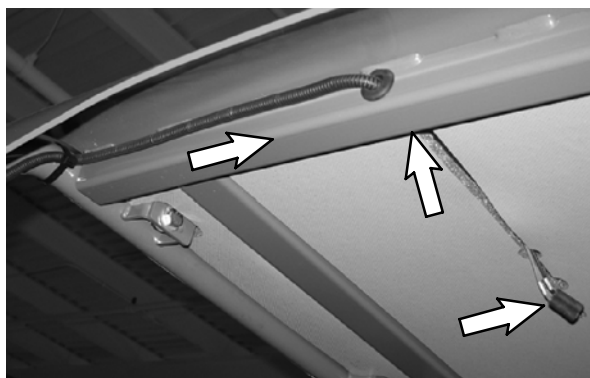
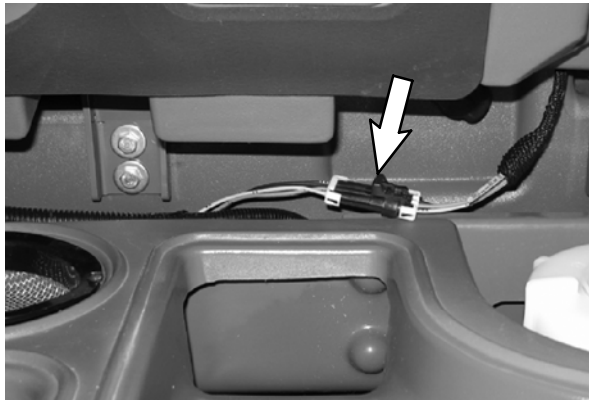
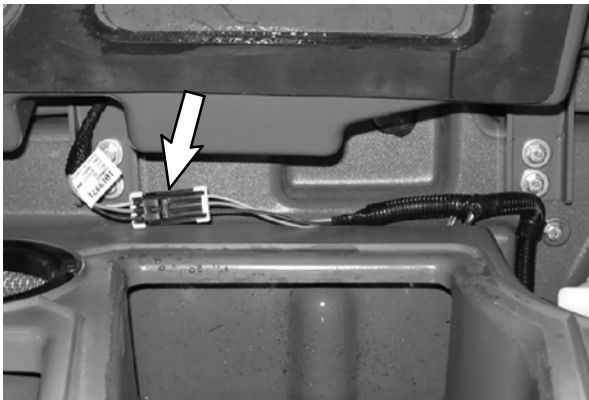
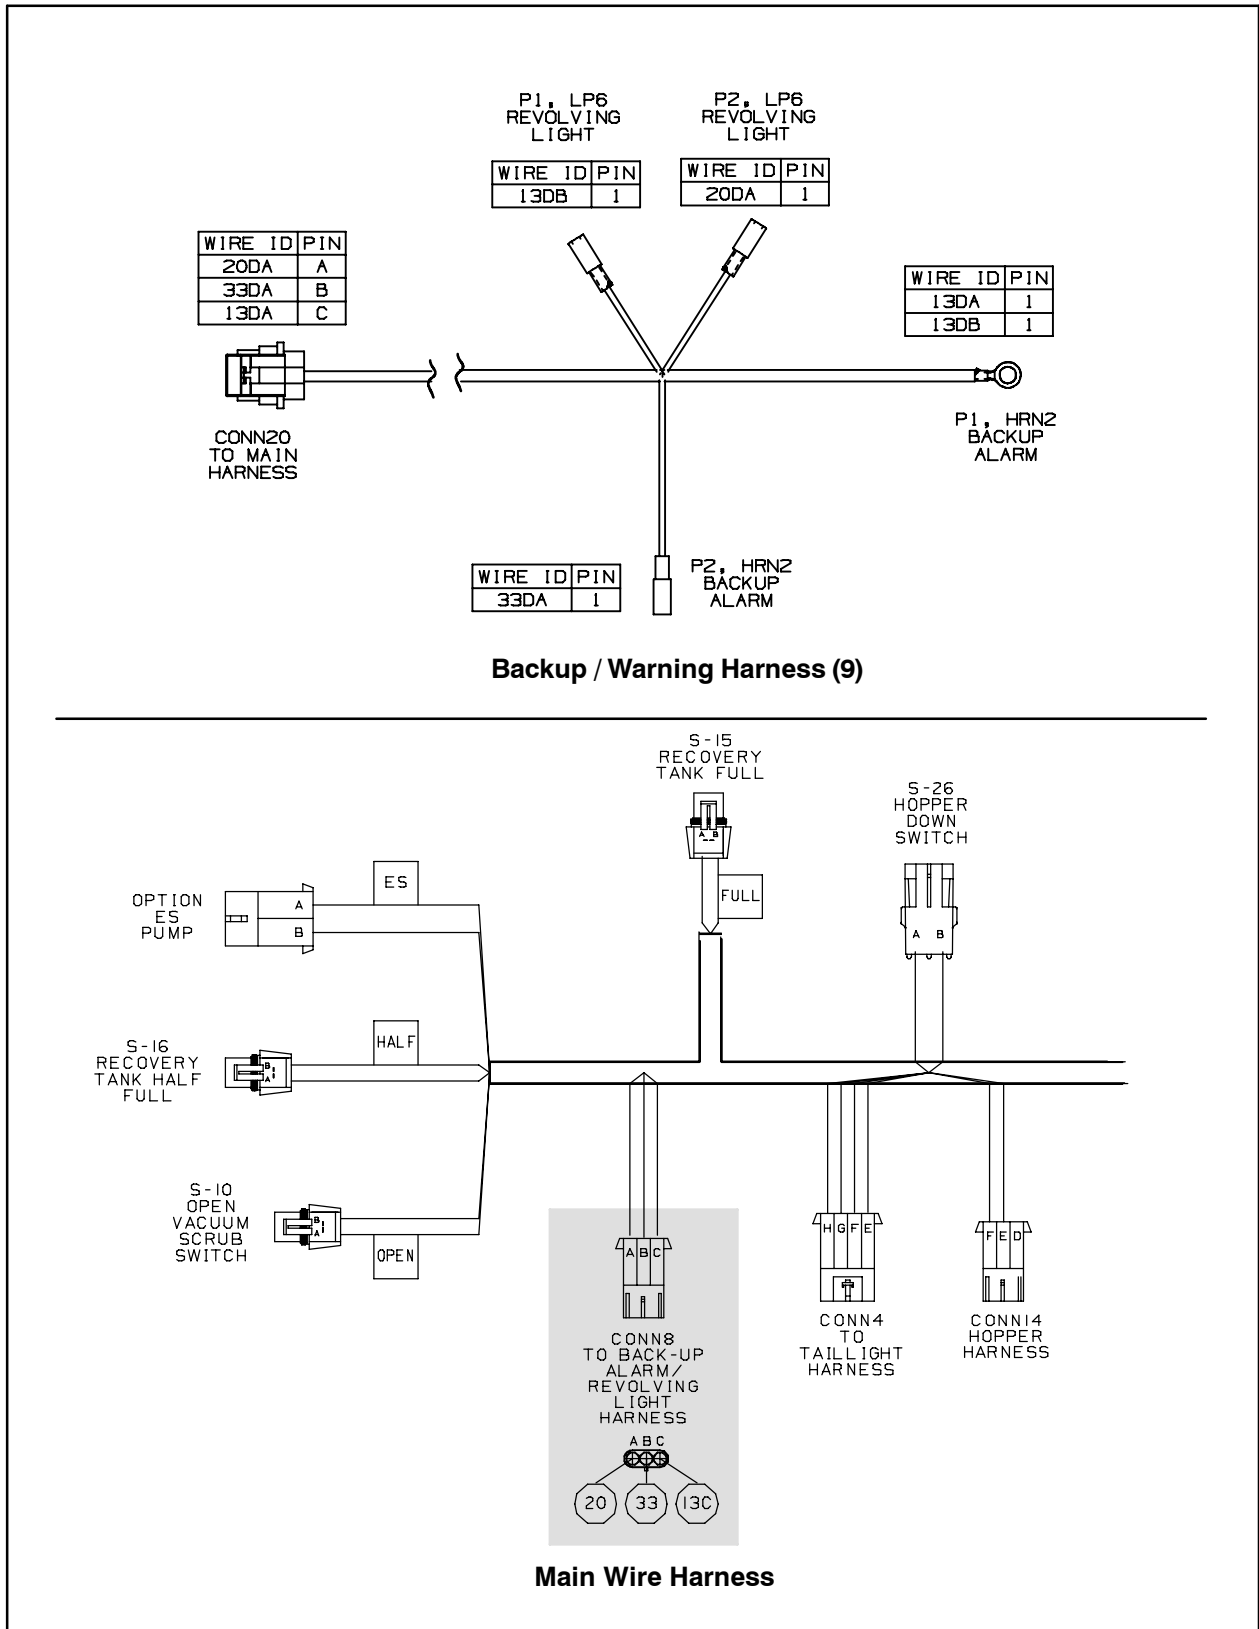

FIG. 6
FIG. 10 - M20 Harness Location
FIG. 11 - T20 Harness Location
FIG. 14
4. Connect the warning/overhead harness (9) to the main wire harness, route the warning/overhead harness through the grommet (10) installed in the operator compartment panel, up along leg of the overhead guard, and to the rear cross member of the overhead guard. Refer to Fig. 9 and Fig. 10.
7. Route the warning/OHG harness (9) through the notch in the overhead guard insulation and connect the harness to the flashing light (13). Refer to Fig. 6 and Fig. 10.
11. Open the recovery tank cover and pull the main wire harness backup alarm connector from between the recovery and solution tank. Connect the warning/backup harness (8) to the main wire harness. Refer to Fig. 10 or Fig. 11, and Fig. 14.
13. Connect the wires from the backup alarm (1) to the warning/ backup harness (8). Refer to Fig. 14.
14. Neatly bundle the flashing light wires on the warning/ backup harness (8) and secure them to the harness with either cable ties or electrical tape.